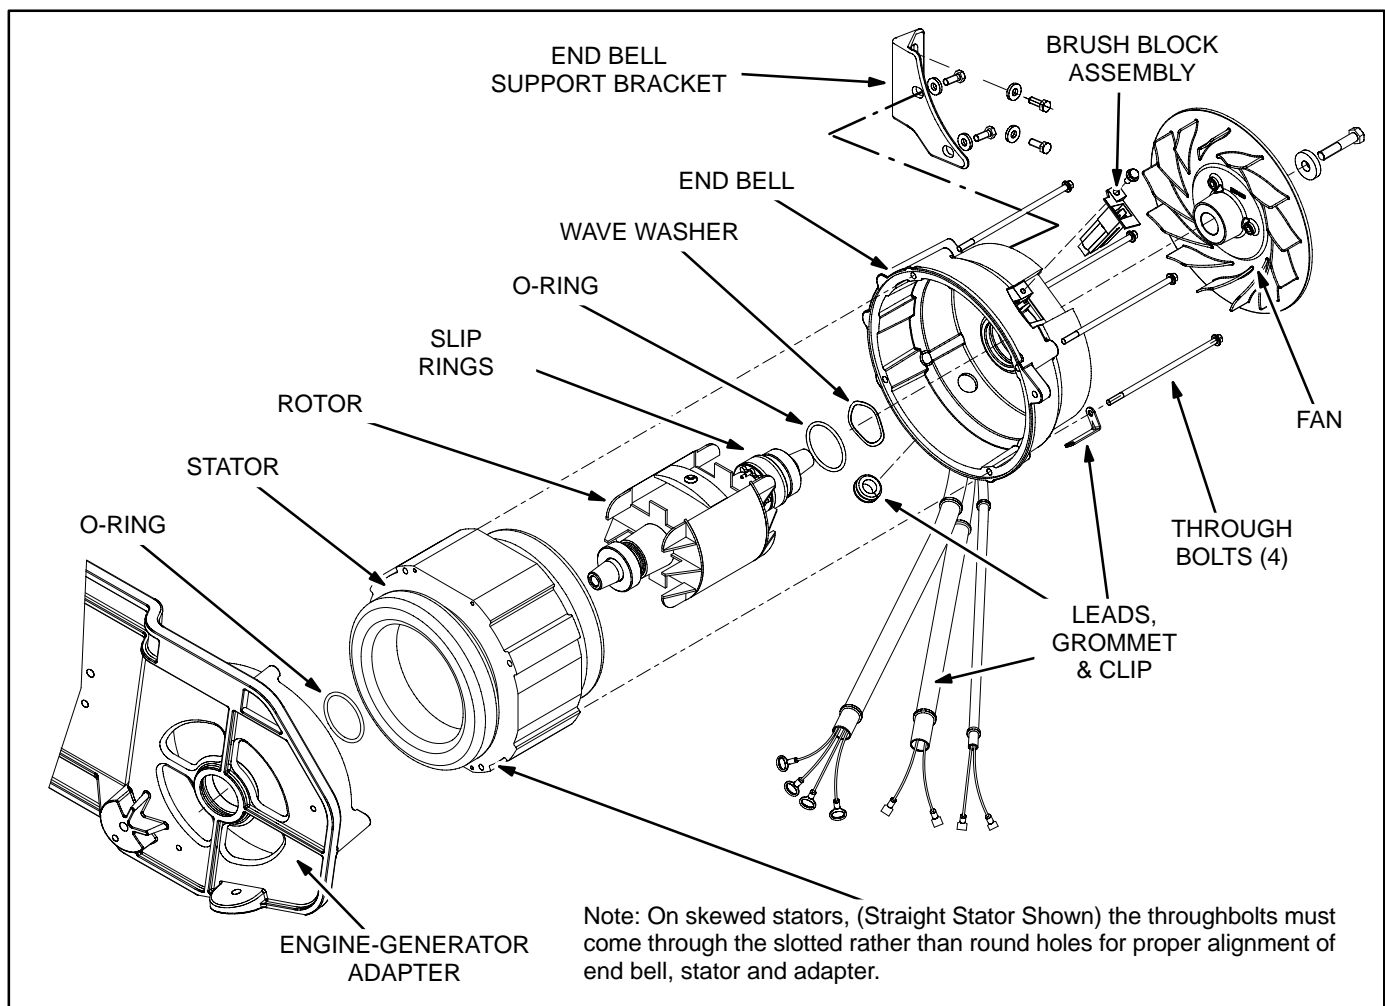

FIGURE 6-1. GENERATOR
These are 2-bearing, belt-driven, 2-pole revolving-field generators with brushes and slip rings (Figure 6-1). Output voltage is regulated by microcontroller-based genset controller A1 (Page 5-1).
3. Remove the brush block (Figure 6-1).
**Note:** Figure 6-1 shows a straight stator and the through bolts lined up to pass through round holes in the stator laminations. On models with skewed stators the through bolts must pass through slotted holes for the end bell, stator and adapter to line up properly.